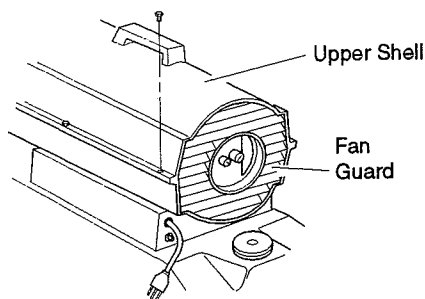

Figure 9 - Upper Shell Removal, Models 2E510D and 2E511C
1. Remove screws along each side of heater using 5/16" nut-driver. These screws attach upper and lower shells together (see Figures 9 and 10).